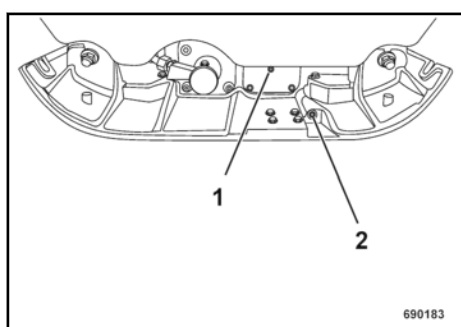

Fig. 41
Unscrew the bleeding screw (1) ↗ Fig. 41.